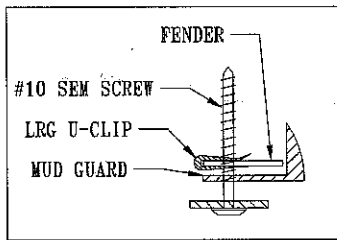

Figure 1
2. Install U-Clip at location E. U-Clip should clip over fender. (Figure 1)